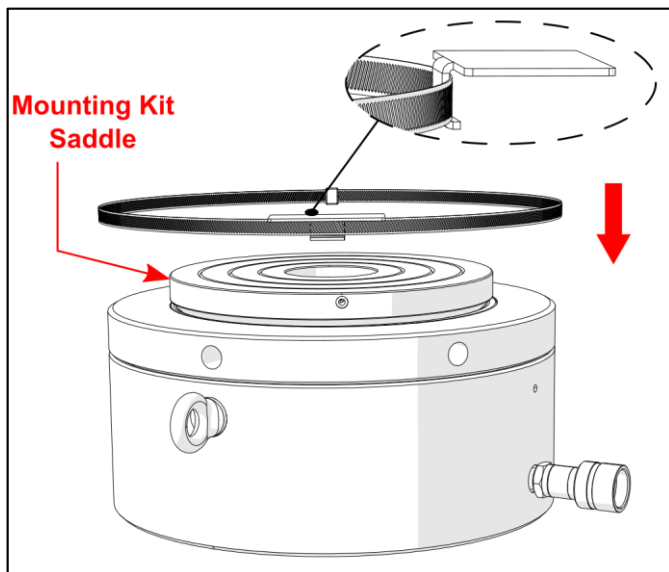

Figure 5.2: Mounting Kit Base Plate Installation.
- Fit the mounting kit saddle (26).
- If necessary, loosen the Mounting Kit Band (28) until it is loose enough to fit over the cylinder body.
- Hook the Mounting Kit Base Plate (29) into the Mounting Kit Band (28) and slide the band over the cylinder body. (See figure 5.2)